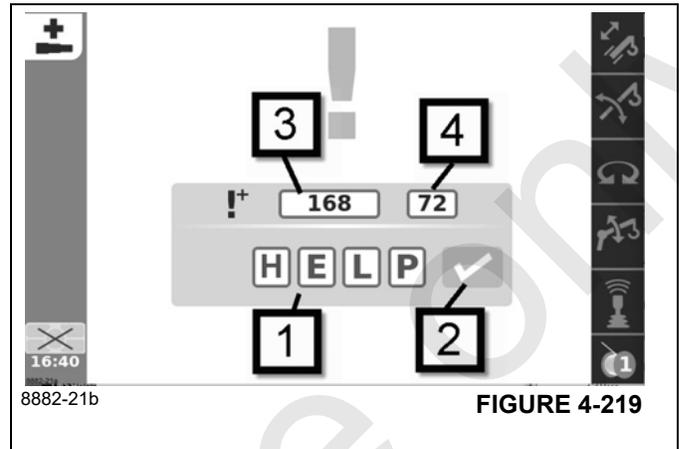

FIGURE 4-219
- Select and confirm the letters H-E-L-P (1), (Figure 4-219) – the screen to access the Emergency Telescoping Mode is opened.
- Confirm the entry with the symbol (2), (Figure 4-219).
The Emergency Telescoping Program has a time limit. The display (1), (Figure 4-219) shows the remaining time for operating the emergency program.
Enter a password to open the Telescoping Emergency Program Menu (Figure 4-219).